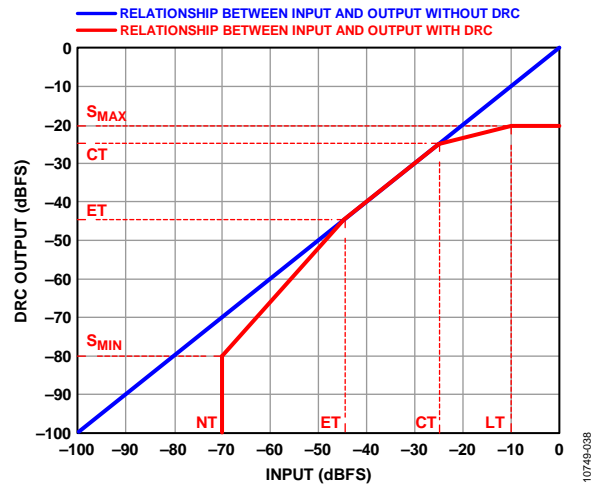
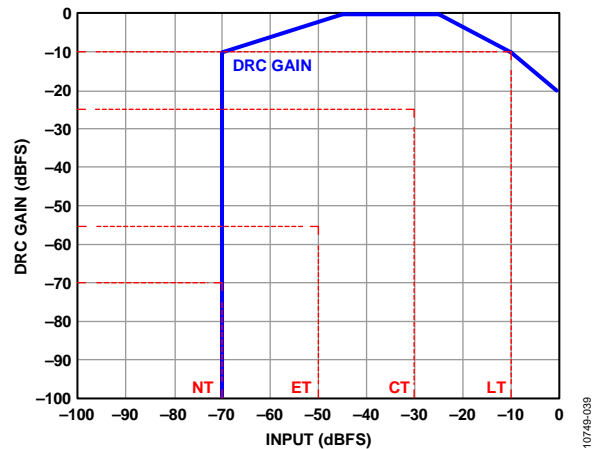

Figure 39. DRC Output vs. Input
Figure 40. DRC Gain vs. Input
An example of such a static curve is given in Figure 39, which shows the input and output signal levels. The blue line shows a linear relationship where the output dynamic range is identical to the input dynamic range. The red line shows a different output dynamic range from the input. Furthermore, this curve indicates that the signal dynamic range is larger when the input signal is low.
Figure 40 shows the gain values at various input signal levels.
A number of threshold levels (referred to the input) are used in Figure 39 and Figure 40; these levels are defined as the limiter threshold (LT), compressor threshold (CT), expander threshold (ET), noise gate threshold (NT), maximum output signal amplitude (S\_MAX), and minimum output signal amplitude (S\_MIN). The corresponding bits, DRC\_LT, DRC\_CT, DRC\_ET, DRC\_NT, DRC\_S\_MAX, DRC\_S\_MIN, can be found in Register 0x59 to Register 0x5D.